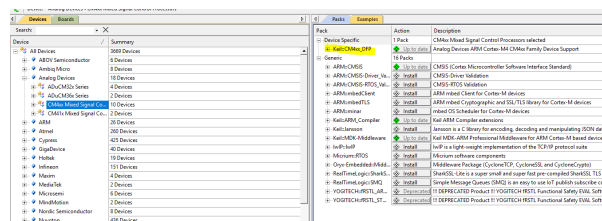

Figure 8: Packs to be installed are emphasized by yellow (Depending on the Keil version selected device under the device tab might be CM41x)
- Under *Devices* tab, seek for the CM4xx (or CM41x) Mixed Signal Control Processors: All Devices > Analog Devices > CM4xx (or CM41x) Mixed Signal Control Processors (Figure 8)
- Install the pack *Keil :: TM4xx_DFP* under the *Packs* tab (Figure 8)